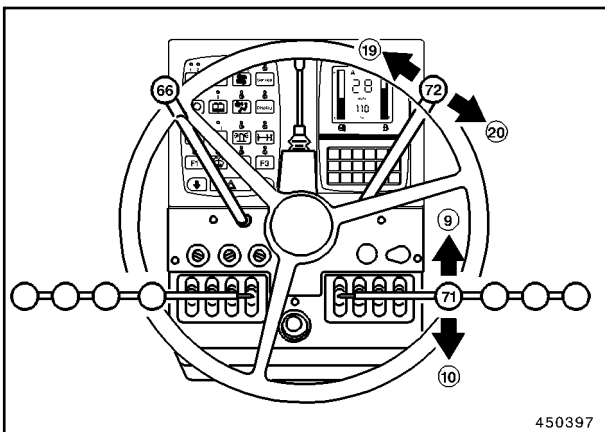

Fig. 6
- Check the wheel camber hydraulics for proper operation by moving the control lever (72, Fig. 6) several times to the upper and lower limit stop.